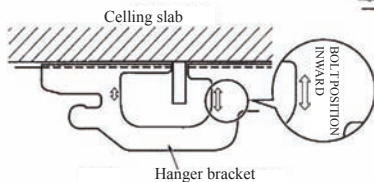

Fig.6
* Make sure that extended suspension bolt from the ceiling stays inside the arrowed position. Readjust the hanger bracket when it is outside the arrowed position. (Refer to Fig.6)